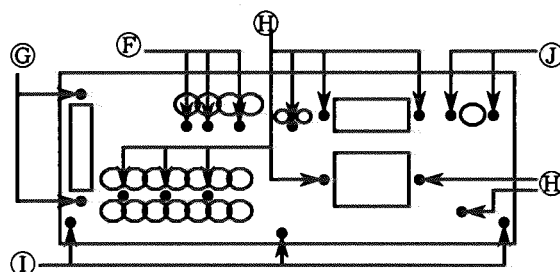

FIG.3 Rear side
2. Remove 17 screws **F**, **G**, **H** and **I**. (Remove 2 screws **J**. Universal version only)(FIG.3)
2. Remove 2 screws **G**.(FIG.3)
5. Remove 3 screws **I**.(FIG.3)